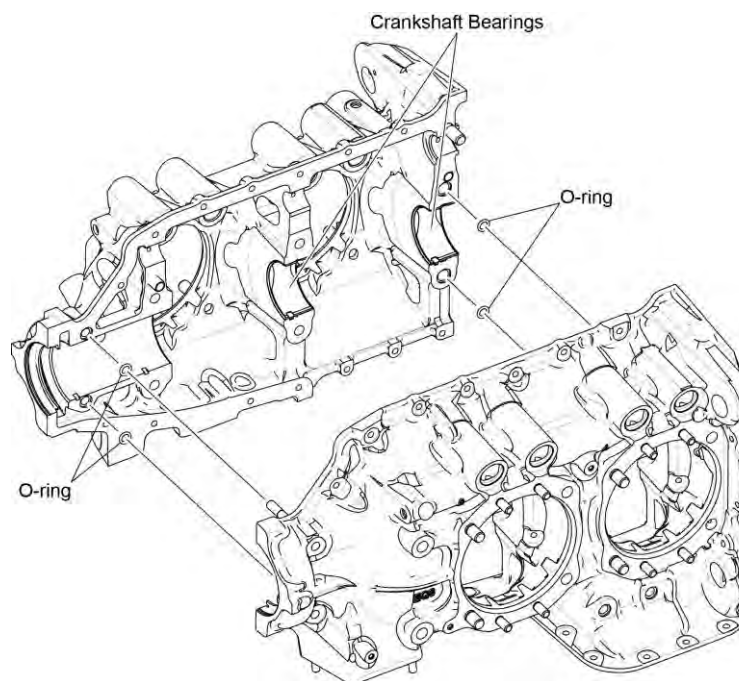

Figure 54
- C. Install the eight new O-rings (Figure 54).